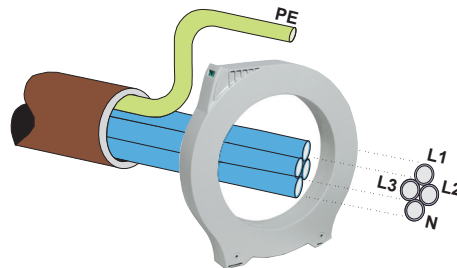

Figure 10: Distribution of the conductors.
Active conductors are defined as the phases (**L1, L2 and L3**) and neutral. Never the protection cable (**PE or Earth**) (**Figure 10**).
In the event of having to route a cable hose containing all the conductors, including the earth conductor (PE), the PE conductor must be routed in the opposite direction to counteract the effects of its original path, see **Figure 10**.